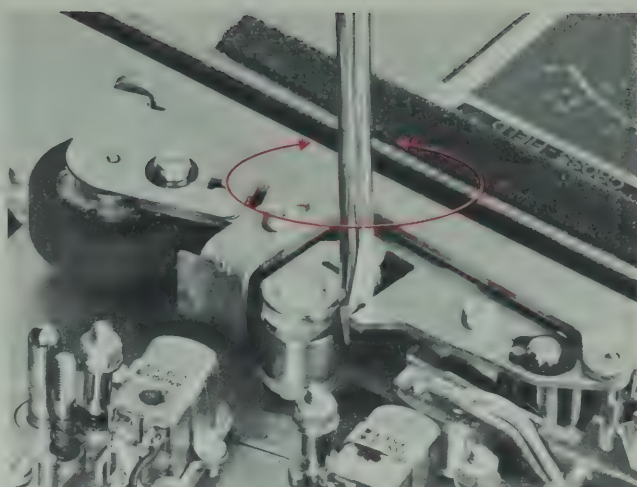

Fig. 2.16. Azimuth adjustment of inertia idling roller.
- Adjust the upper bearing to the left until it can be clearly seen that the tape hits the upper flange on the tape guide post nearest the inertia idling roller. Then move the bearing slightly towards the right, using a screwdriver, until the tape barely hits the lower flange of the tape guide post, see fig. 2.16.